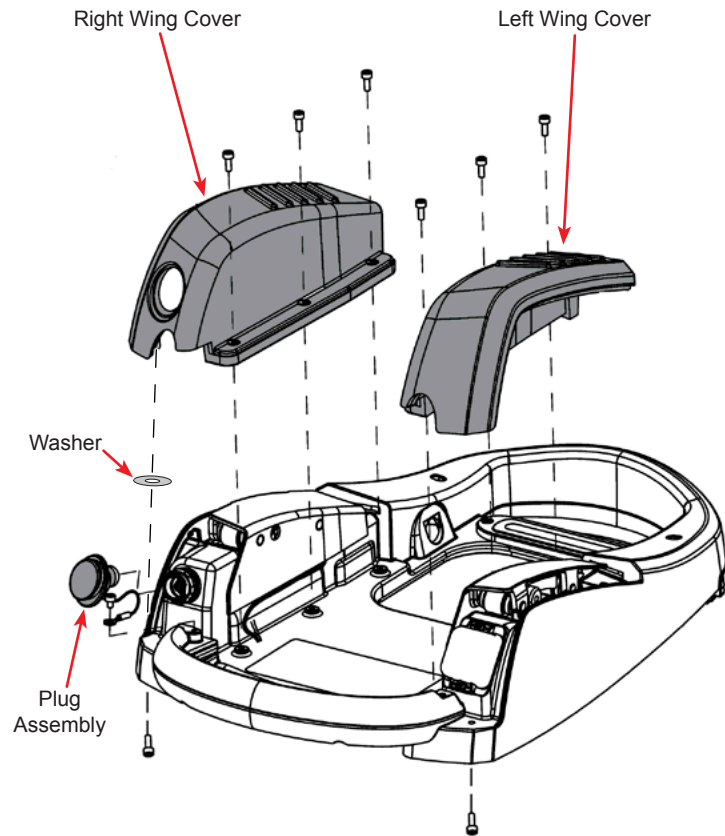

Figure 3-62 Footswitch Wing Covers and Connector Plug Assembly (shown without footpedal)
- 49.3 From underside of footswitch, remove one 2.5 mm hex screws securing each Cover to main housing (see Figure 3-62).